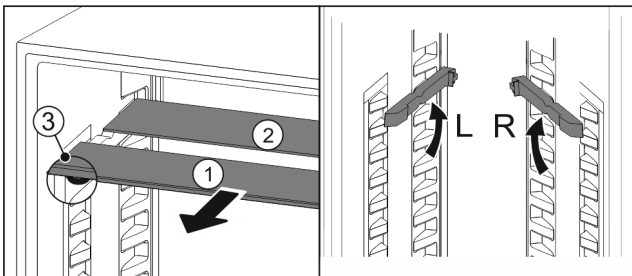

Fig. 100
- ▶ Pull the glass panels out Fig. 100 (1) from the front, one at a time.
- ▷ The glass panel Fig. 100 (1) and trim strip are at the front.
- ▷ The stops Fig. 100 (3) point down.